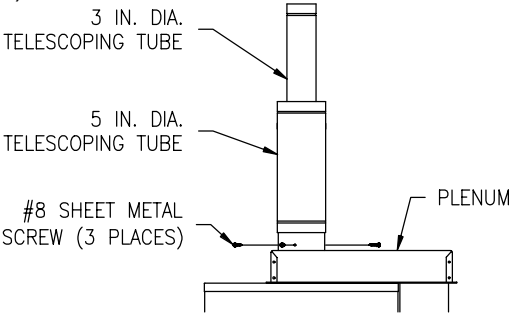

Figure 7a
Compress the five (5) inch (12.7 cm) diameter telescopic tube to minimum length. Place the large end of the five (5) inch (12.7 cm) diameter telescopic tube through the hole in the ceiling (if applicable). Insert the small end of the five (5) inch (12.7 cm) diameter telescopic tube over the three (3) inch (7.6 cm) diameter telescopic tube and plenum collar until seated on top of the plenum box. Drill three (3) 1/8 inch diameter holes, 120° apart, through the five (5) inch (12.7 cm) diameter telescopic tube into the plenum collar. Fasten with three (3) #8 sheet metal screws (supplied). (See Figure 7a).